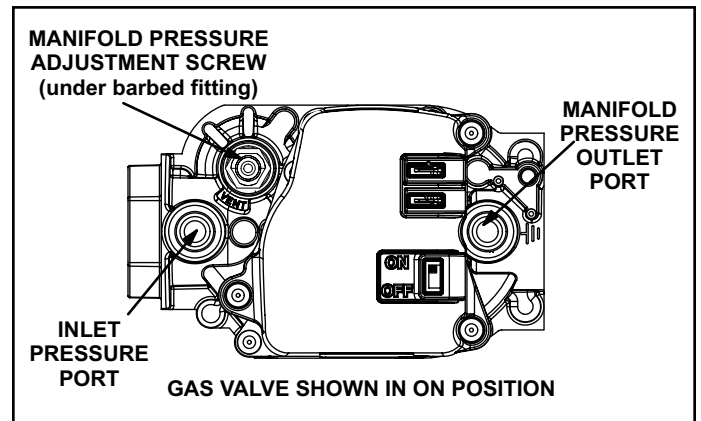

Figure 49. Gas Valve
Gas Valve Operation (Figure 49)
6. Move gas valve switch to OFF. See Figure 49.
8. Move gas valve switch to ON. See Figure 49.
When testing supply gas pressure, use the 1/8" N.P.T. plugged tap located on the gas valve to facilitate test gauge connection. See Figure 49. Check gas line pressure with unit firing at maximum rate. Low pressure may result in erratic operation or underfire. High pressure can result in permanent damage to gas valve or overfire.